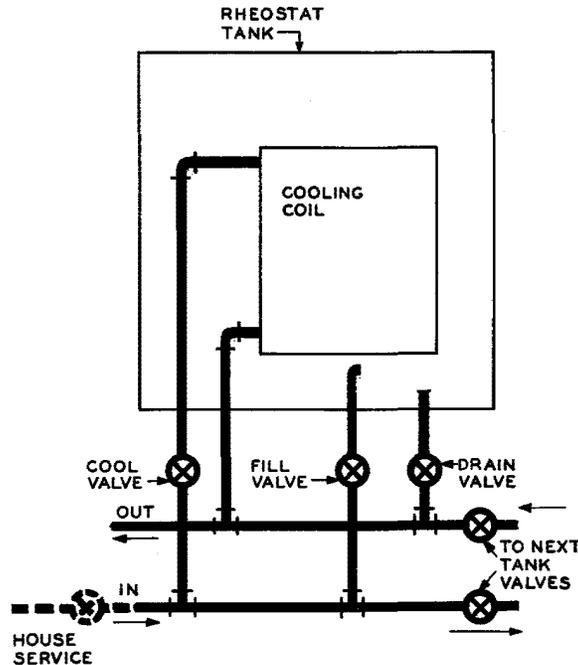

Fig. 15 - Piping Schematic of R-2746 30-KW Water Rheostat Cooling System
6.08 The building water supply is connected to the IN coupling. This may be done by means of a garden hose capable of withstanding the local city water pressures which will be encountered at the various offices where these rheostats will be used. The water received must be from a hose 3/4 inch or larger and can be used to supply a maximum of six R-2746 rheostats. Another hose is connected from the OUT connection to a convenient drain for the purpose of carrying off the heated water from the cooling coil as well as draining the rheostat. The NEXT TANK valves are to be open except at the last rheostat in the group which is closed. See Fig. 15. Close all DRAIN and COOL valves. With the water supply on, open FILL valves and fill each rheostat to the level marked on the cooling coil. This may be observed through the opening at the top of the rheostat with the cover open. Do not allow water to touch the underside of the terminal assembly at the top of the rheostat since current flowing between them during operation would result in permanent damage to the assembly.